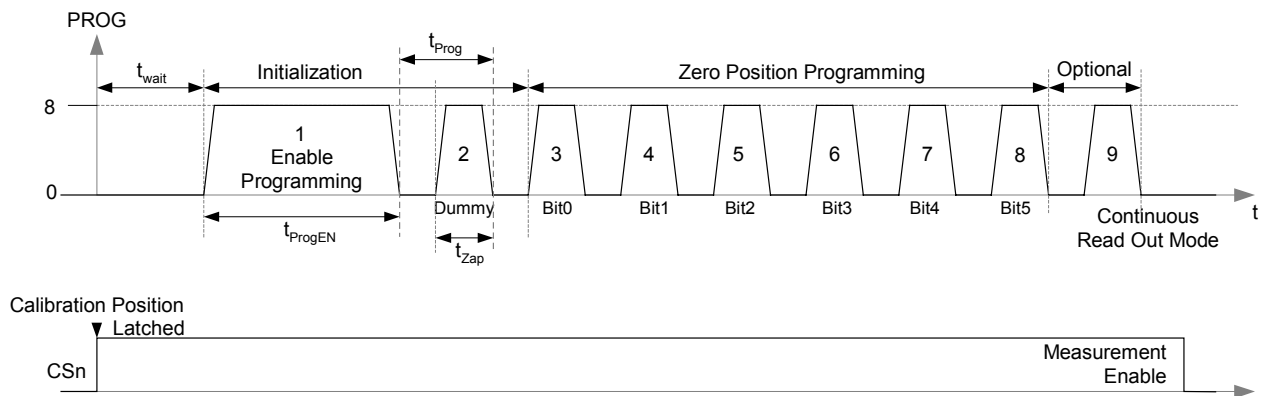

Figure 6 Programming sequence
As shown in Figure 6, the rising edge of PD/CSn measures the actual position and stores it internally for the permanent programming. PD/CSn must be high during the whole programming sequence.
**Programming Input (see Figure 6)**